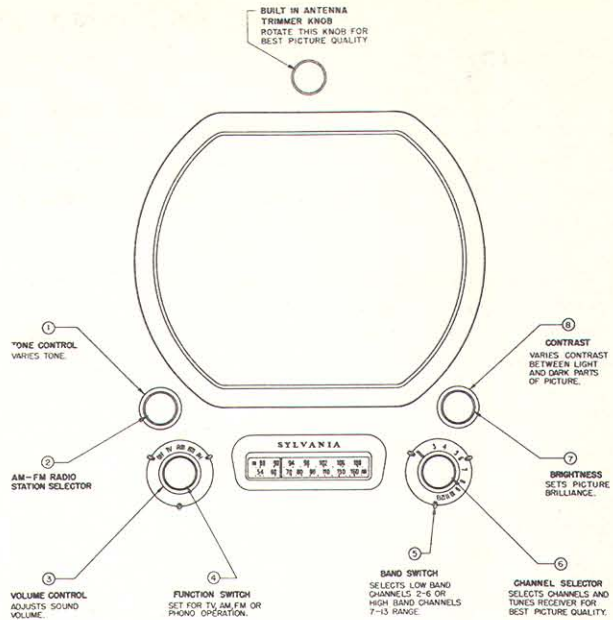

FIG. 3
A. To adjust and tune this receiver for television reception, refer to Figure 3 and proceed as follows:
1. Turn the FUNCTION switch (4) to TV.
2. Turn BAND switch (5) fully clockwise to tune any channel from 2 through 6 and fully counterclockwise to tune any channel 7 through 13.
4. Rotate the CHANNEL SELECTOR (6) until the red line on the background is in line with the channel number of the station it is desired to receive.
5. Turn the CONTRAST control (8) to mid-position.
6. Turn the BRIGHTNESS control (7) fully counterclockwise, and then slowly clockwise until activity is clearly visible on the screen.
7. Adjust the CHANNEL SELECTOR (6) for best picture quality.
8. Adjust the VOLUME control (3) for desired volume and TONE control (1) for desired tone.
9. The CONTRAST control (8) may now be adjusted to obtain the desired degree of contrast between the light and dark parts of the picture.